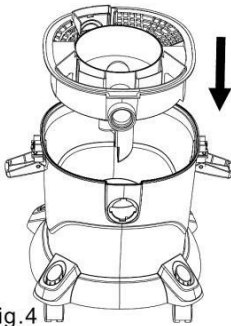

Fig.4
**Step 4:** Put down the filtration assembly (Fig. 4).